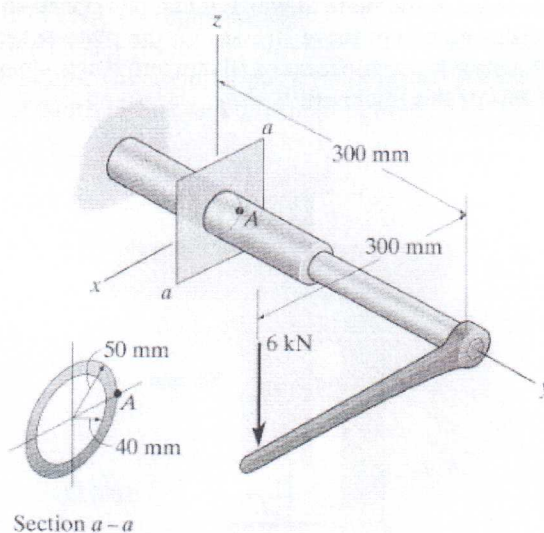

Figure 1.
- (1) Determine the state of stress at point  $A$  on the cross section of the pipe at section  $a-a$  shown in Figure 1.